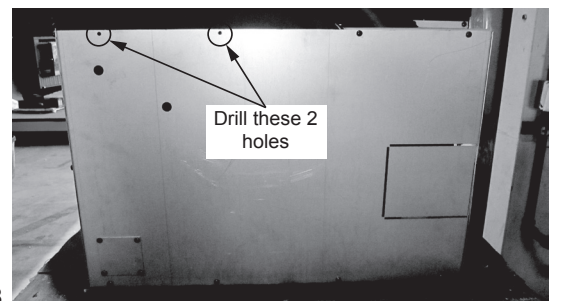

Figure 21.8
11. Using the electric drill with #26 drill bit; drill 2 holes into the back of the hopper. Add two screws to secure shroud assembly to the appliance (**Figure 21.8**).